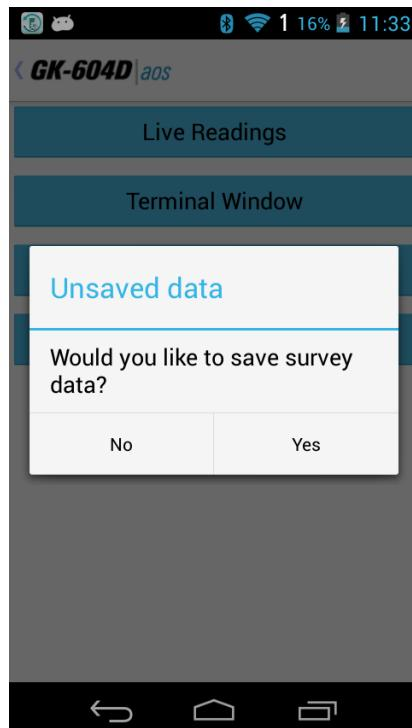
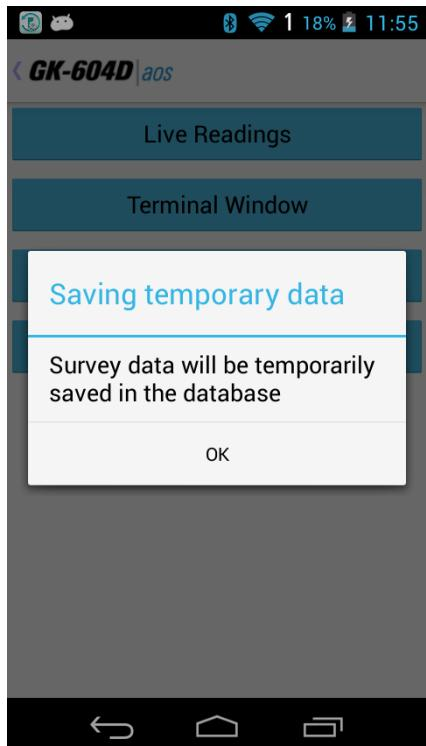
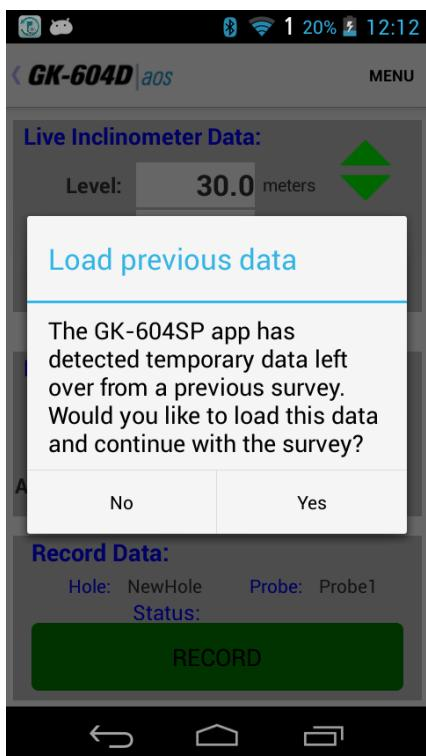

Figure 39 - Unsaved Data Prompt
Figure 40 - Saving Temporary Data
Figure 41 - Load Previous Data Prompt
- When done taking readings, tap **GK-604D|aos** to dismiss the screen. The application will detect if readings have been recorded and if so, an opportunity to save the readings will be presented to the user (Figure 39).
- Even if “No” is selected from the Unsaved Data Prompt (Figure 39), the readings will be saved to a temporary database table and can be restored the next time “Live Readings” is entered (see Figure 40 and Figure 41).
- If “Yes” is selected from the Unsaved Data Prompt (see Figure 39), then the readings will be saved to the database and the survey will be saved with the name given to it in the Survey Metadata Settings (see Section 3.2.1.1, Survey Metadata topic). If no name was entered in the Survey Metadata Settings, the survey will be saved using a three-digit numerical suffix combined with the “Hole” name. For example, if there were four previous surveys saved for a hole with the name of “HL123_Dam75”, the new survey would be named: “HL123_Dam75_005”.